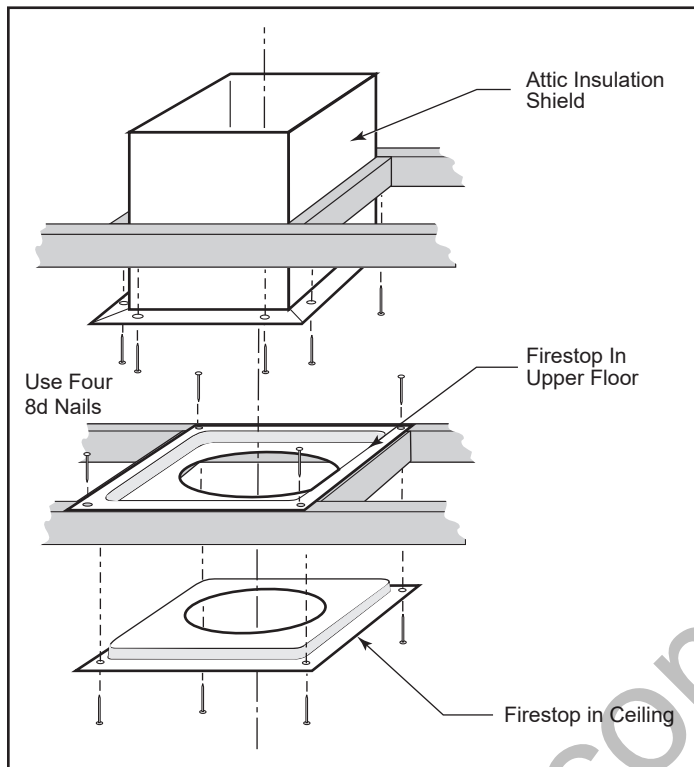

Figure 30 - Install firestops and attic insulation shield.
6. Install firestop(s) and Attic Insulation Shield as needed. (Figure 30) If there is a room above ceiling level, a firestop must be installed on both the bottom and top sides of the ceiling joists. If an attic is above ceiling level, an attic insulation shield must be installed.